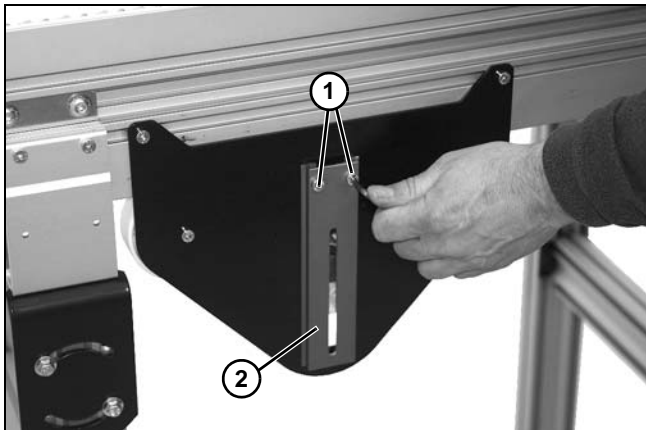

Figure 101
1. Remove two socket head screws (**Figure 101, item 1**) securing side plate (**Figure 101, item 2**) to weighted take-up plate from one side of conveyor.